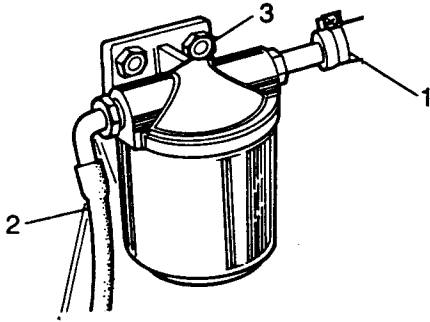

Fig C4.4
- (1) Refer to Fig C4.4. Loosen the clamps (4) over the two pipes (1) and (2) and disconnect the two pipes from the filter.
- (2) Remove the two nuts (3) securing the filter to the rear wall.
- (3) Lift the filter away from the two studs.